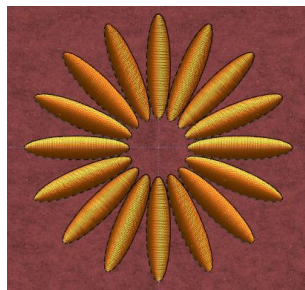

Figure 2.46: Apply Repeat last transform option
21. To avoid doing that again and again until you draw all petals of the flower, you can simply select the **Repeat last transform** option from the **Edit** menu. This option will redo your last transformation, based on the last inserted petal, as many time you want. The result is shown on Figure 2.46.